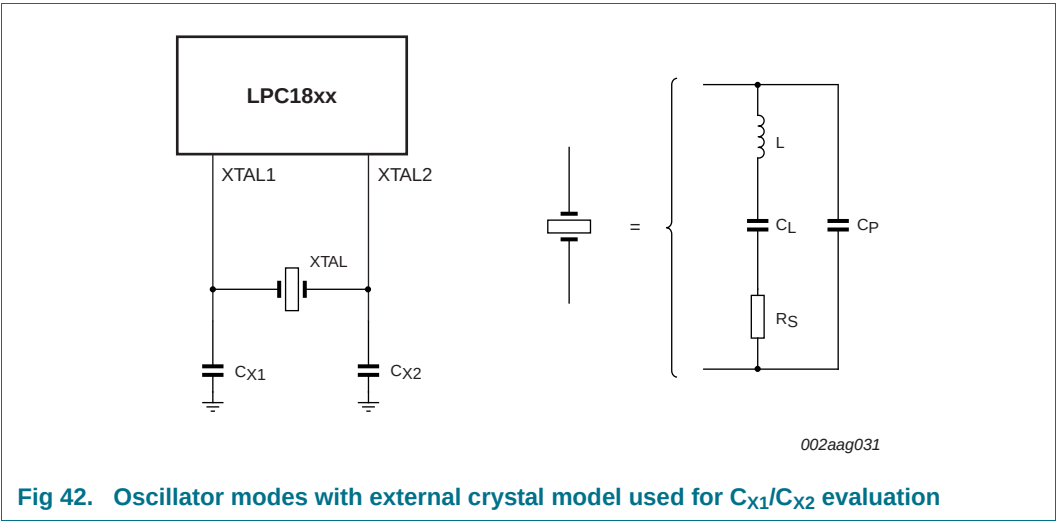

Fig 42. Oscillator modes with external crystal model used for C_{X1}/C_{X2} evaluation
- External components and models used in oscillation mode are shown in Figure 42, and in Table 42 and Table 43. Since the feedback resistance is integrated on chip, only a crystal and the capacitances C_{x1} and C_{x2} need to be connected externally in case of fundamental mode oscillation (L , C_L and R_s represent the fundamental frequency). Capacitance C_P in Figure 42 represents the parallel package capacitance and must not be larger than 7 pF. Parameters F_c , C_L , R_s and C_P are supplied by the crystal manufacturer.